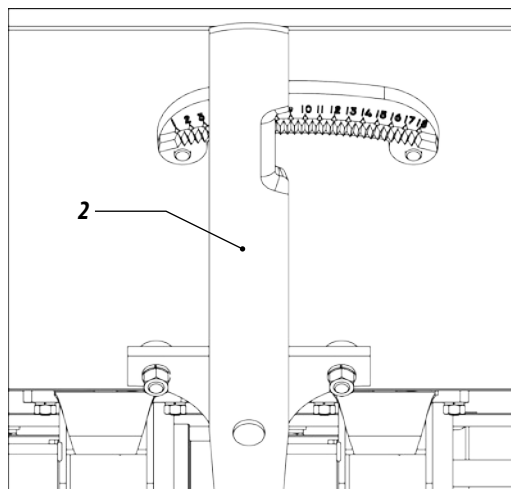

Figure 87
- 02 - The amount of seed is adjusted through the handle (2) shown in FIGURE 87.